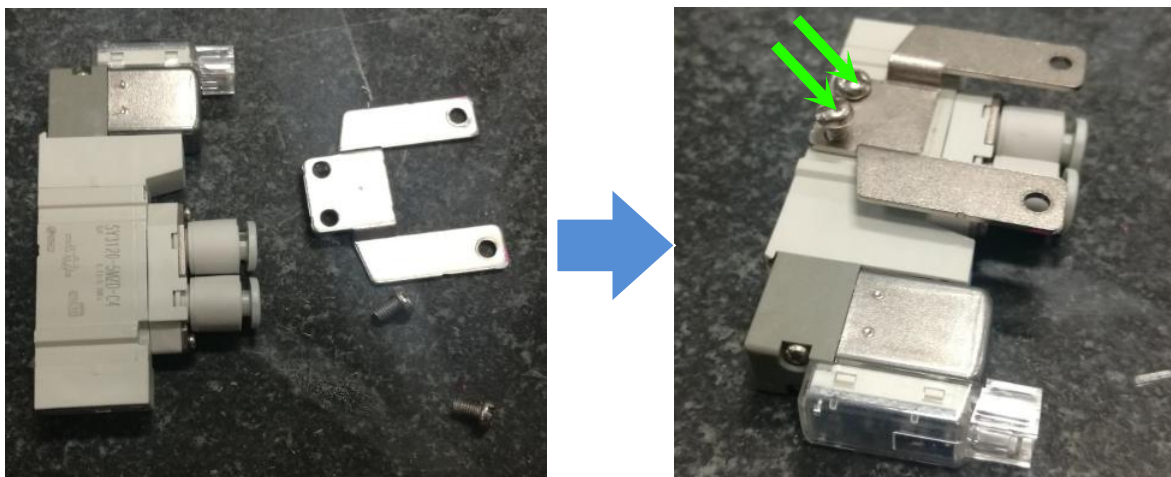

Figure 6 Holding Bracket Transplant
- Remove the Holding Bracket from Right PIP Pneumatic Valve (Previously dismantle). Assemble the Holding Bracket to new “Safety Stop Pneumatic Controller Kit”. May refer to below Figure 6